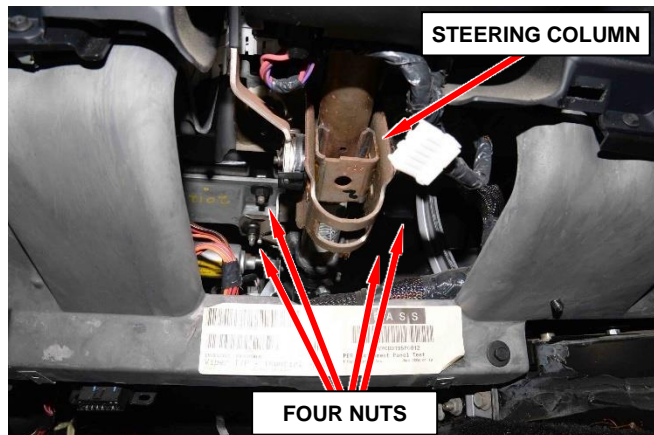

Figure 9 – Steering Column
24. Remove the four nuts securing the steering column to the cross car beam (Figure 9).